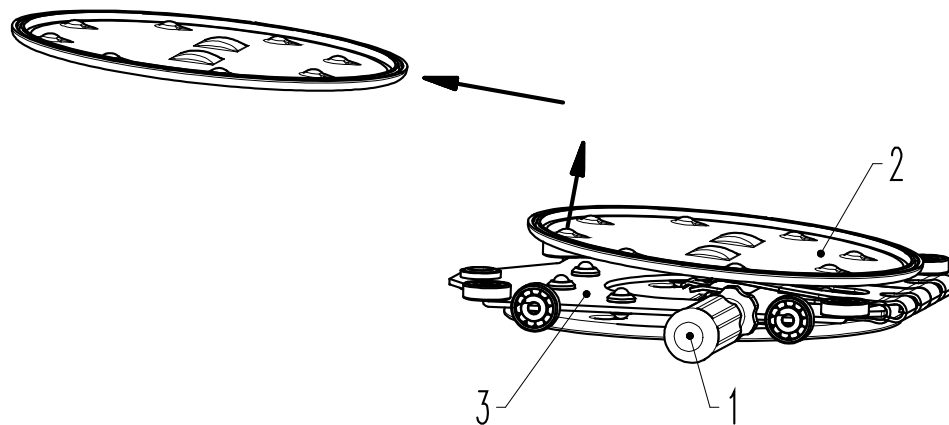
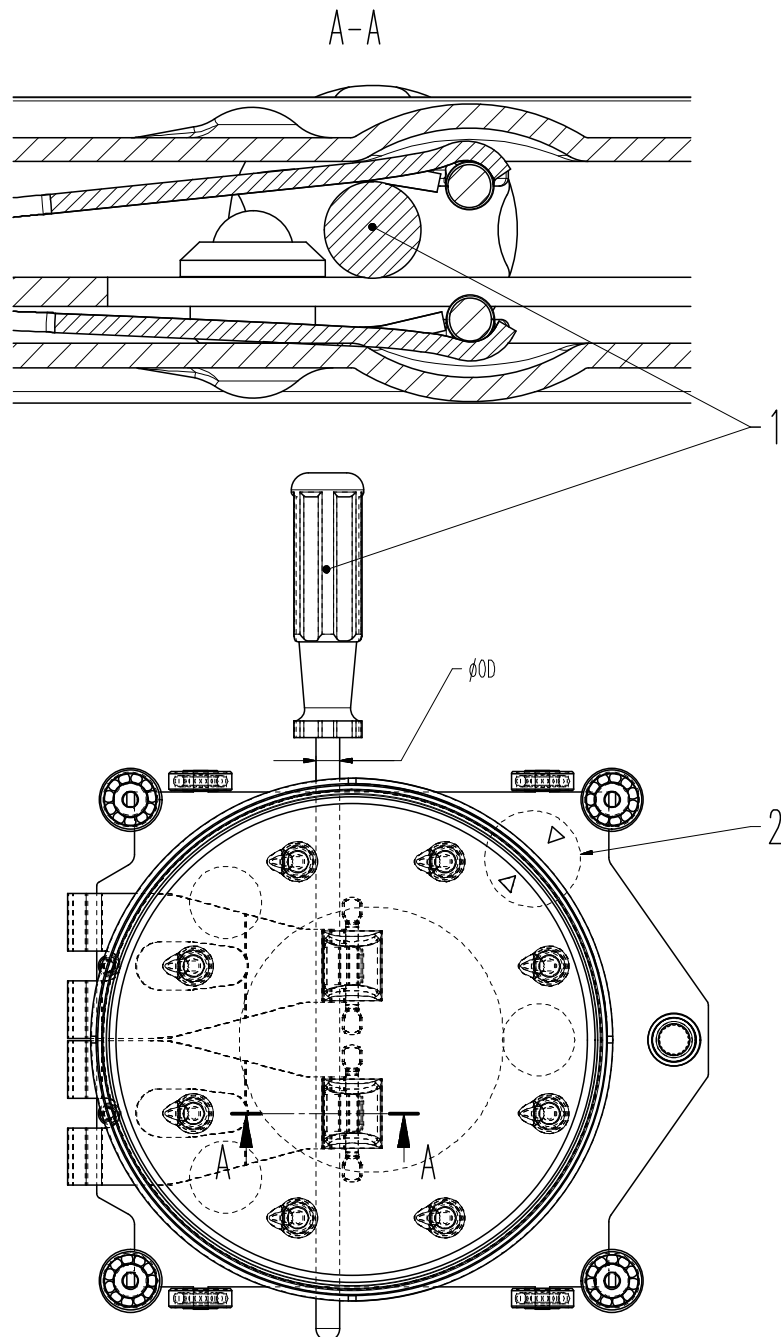

Figure 6-3
Figure 6-4
For dismounting and mounting the valve gate always use tool (1) according to «Figure 6-3». The tool may be ordered from VAT.
9. Lift valve gate (2) by hand and insert tool (1) between valve gate (2) and ball guidance (3); see «Figure 6-3» and «Figure 6-4» on page 17.
10. Remove valve gate in direction of the arrow; see «Figure 6-3» on page 16.
The markings Δ and ∇ (2) according to «Figure 6-4» on page 17 on ball guidance and valve gate must face each other.
12. Withdraw tool according to «Figure 6-3» on page 16.